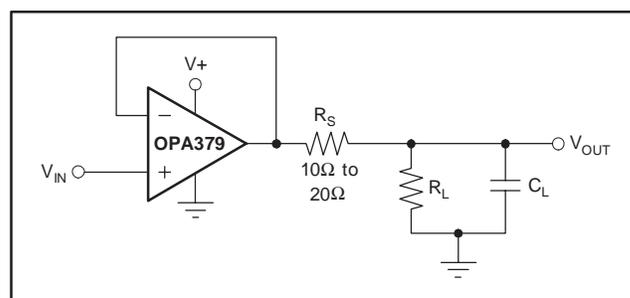

Figure 2. Series Resistor in Unity-Gain Buffer Configuration Improves Capacitive Load Drive
Follower configurations with load capacitance in excess of 30pF can produce extra overshoot (see typical characteristic, *Small-Signal Overshoot vs Capacitive Load*) and ringing in the output signal. Increasing the gain enhances the ability of the amplifier to drive greater capacitive loads. In unity-gain configurations, capacitive load drive can be improved by inserting a small (10 Ω to 20 Ω) resistor, R_S , in series with the output, as shown in Figure 2. This resistor significantly reduces ringing while maintaining DC performance for purely capacitive loads. However, if there is a resistive load in parallel with the capacitive load, a voltage divider is created, introducing a Direct Current (DC) error at the output and slightly reducing the output swing. The error introduced is proportional to the ratio R_S/R_L , and is generally negligible.